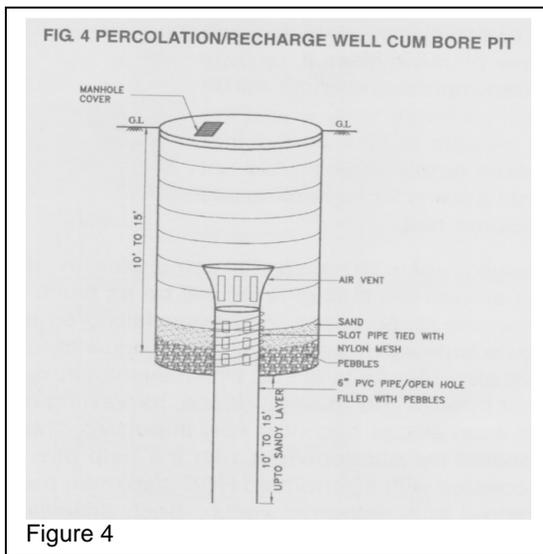

Figure 4
V) In areas where the soil is likely to be impermeable up to say, 20 ft. or more, it is advisable to go in for a percolation/recharge well up to 10 or 15 ft. and a percolation/recharge pit within this well up to another 10 or 15 ft. from its bottom till a permeable soil is reached. A PVC pipe of 4 or 6 inches' diameter is inserted into the bore for the entire length (figure 4).